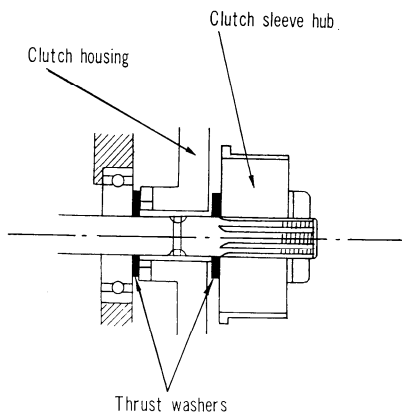

Fig. 5-5-19
B. Install the clutch housing, the clutch sleeve hub and the thrust washers on the counter shaft referring to the illustration. (Fig. 5-5-19)